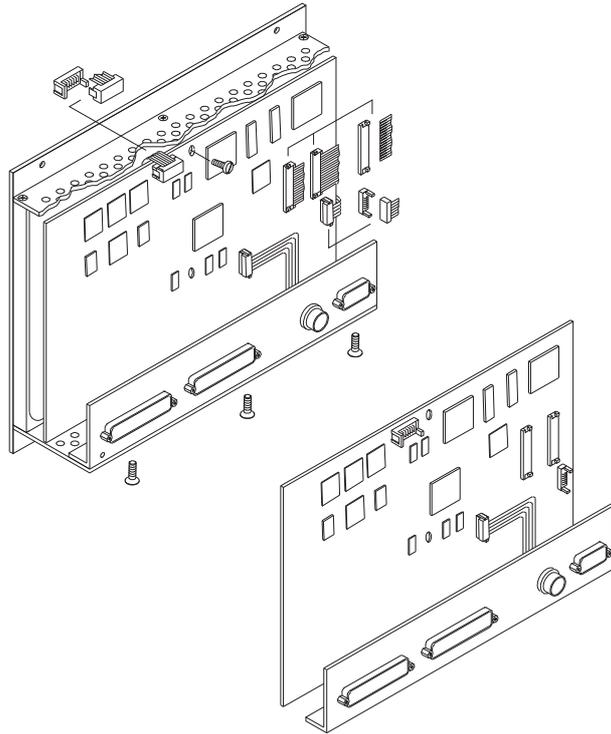

Fig. E 8-21: Replacing the mounting unit of main pcb and connector panel
14. Place the mounting unit of main pcb and connecting panel carefully inside the case. Adjust position of pcb and flat cables (Fig. E 8-21). Reconnect flat cables.